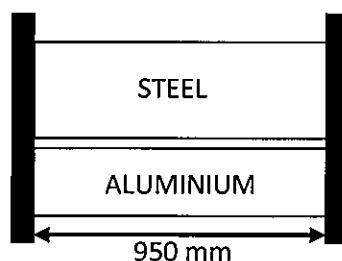

Figure 1 (c)/ Rajah 1 (c)
- (c) Figure 1(c) below shows a compound bar rigidly mounted at both end. Cross sectional area for steel and aluminium bar are  $400 \text{ mm}^2$  and  $335 \text{ mm}^2$ . If the temperature is dropped by  $23^\circ\text{C}$ . Calculate: